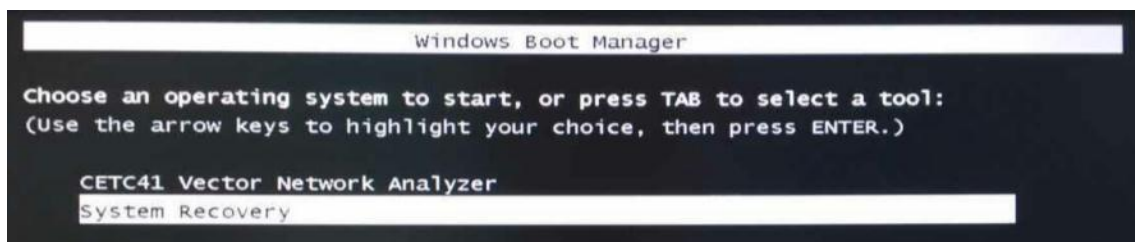

Fig. 3.9 Start-up Screen
- 2) Press the [Power/Standby] key in the lower left corner of the front panel of the analyzer. When the indicator of the external keyboard is ON and the screen shown in Fig. 3.9 appears, immediately press [↑] and [↓], select “System Recovery”, and press [Enter] of the keyboard to automatically recover the system.